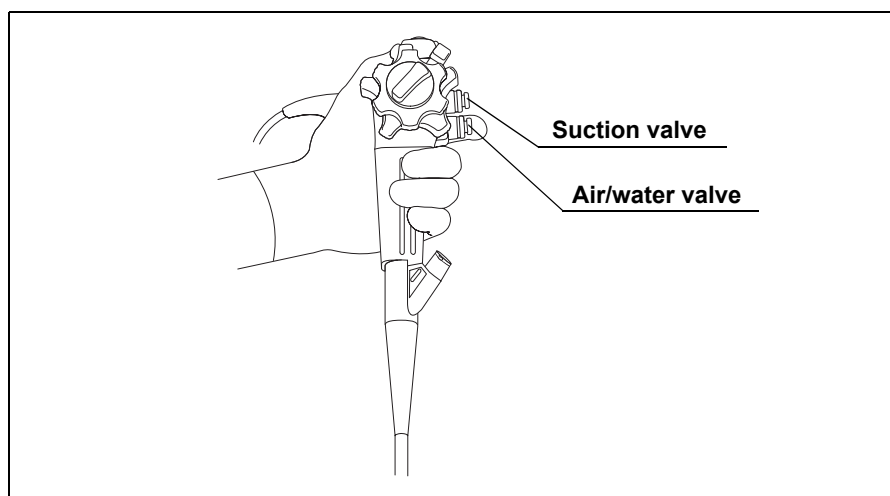

Figure 4.3
1. Cover the air/water valve’s hole to feed air from the air/water nozzle at the distal end (see Figure 4.3).
2. Depress the air/water valve to feed water onto the objective lens (see Figure 4.3).
Depress the suction valve to aspirate excess fluid or other debris obscuring the endoscopic image (see Figure 4.3).